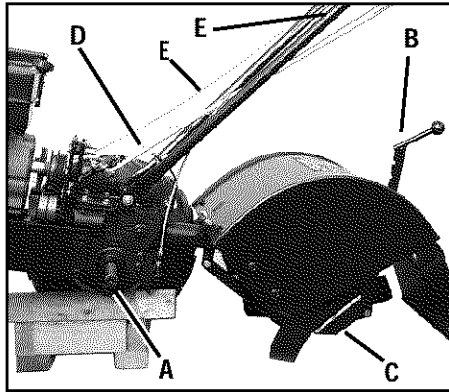

Figure 5-1
- Grease back, front and sides of depth regulator lever (B, Figure 5-1).
- Remove tines and clean tine shafts (C, Figure 5-1). Inspect for rust, rough spots or burrs (especially around holes). File or sand smooth and coat ends of shaft with grease.
- Oil the threads on the handlebar height adjustment handle (D, Figure 5-1).
- Oil the outer casings of the engine throttle cable and the wheel gear cable (E, Figure 5-1). Allow oil to soak in and then wipe off any excess.
Proper lubrication of the tiller is an essential part of your maintenance program. After every 10 operating hours, oil or grease the lubrication points shown in Figures 5-1 and 5-2 and described below.
- Remove wheels and clean wheel shaft (A, Figure 5-1). Apply a thin coating of grease to shaft before reinstalling wheels.